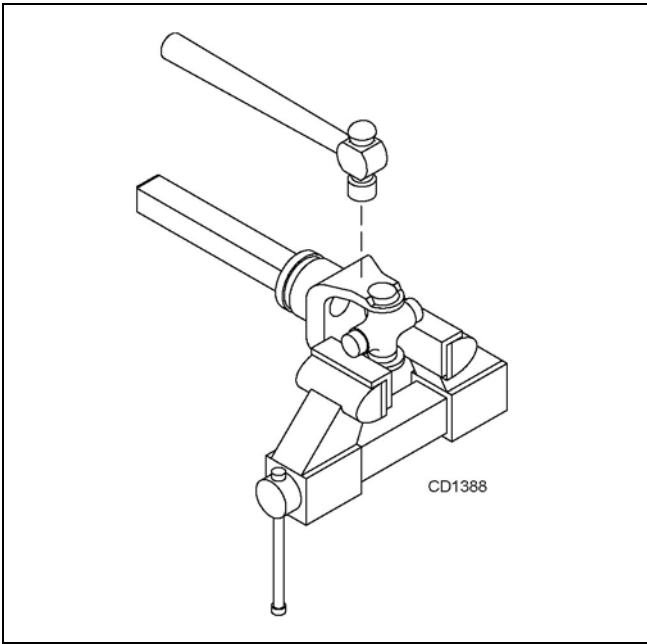

Figure 26. Remove Cups
4. Place universal cross in vise as shown in Figure 26 and tap on yoke to remove cup. Repeat Step 3 for final removal. Drive remaining cup out with a drift and hammer.